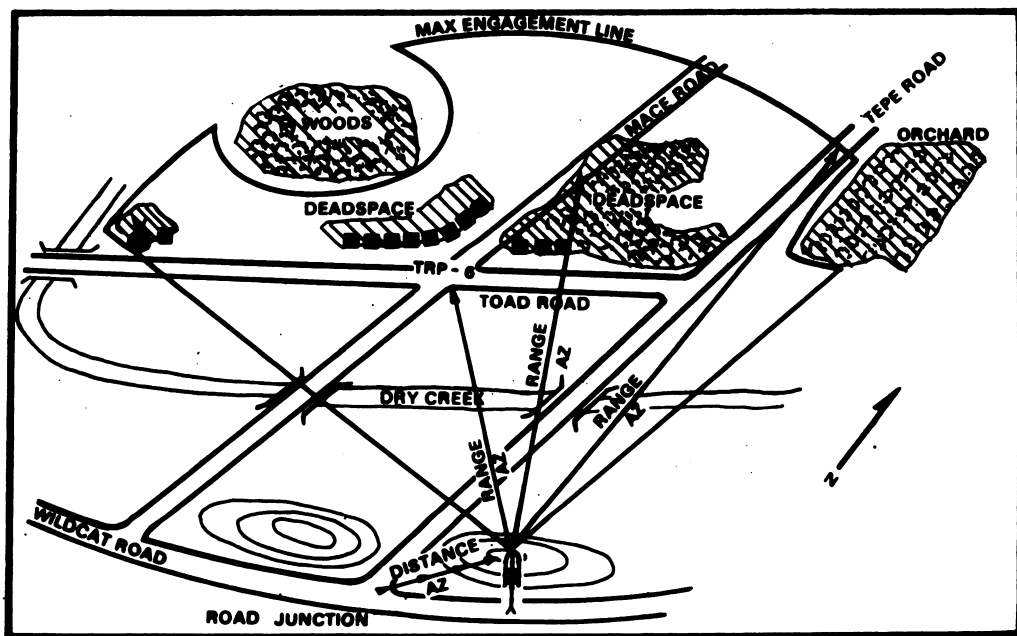

Figure 5
(5) Orient the range card with the terrain and determine the direction of magnetic north with a compass. Draw a magnetic north arrow properly oriented. Draw the TRPs in your sector and label them. Then draw in the range and azimuth to the TRPs. If any anticipated target engagement locations are given, draw in the range and azimuth to them (fig. 5).